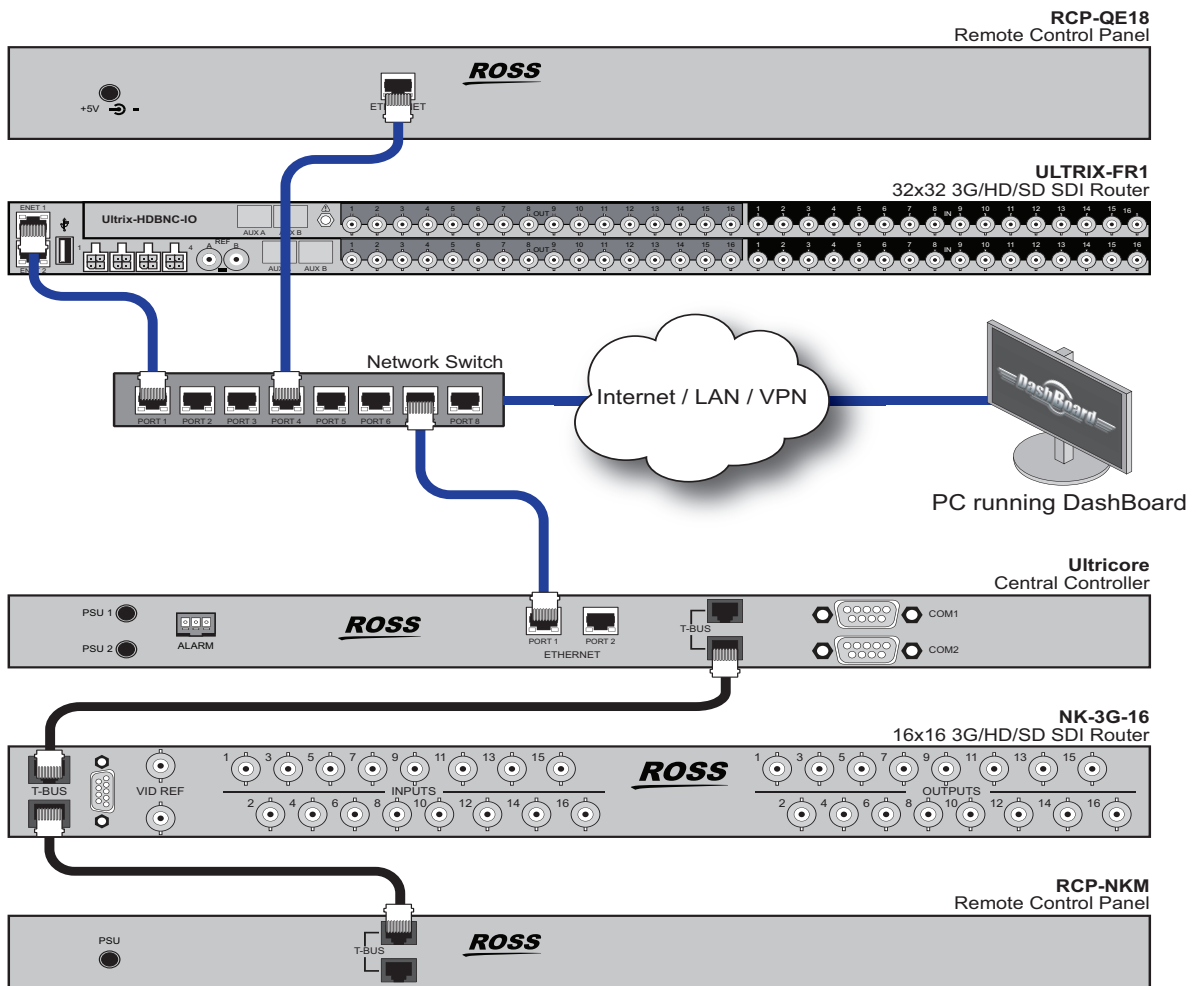

Figure 5.16 Example of a Routing System with Ross NK Devices and an ULTRIX-FR2 Router
- Connect the NK device to the same ethernet network as your Ultrix router using an NK-NET or an NK-IPS, and then set up communications via the Ultracore interface in DashBoard. (**Figure 5.16**)
- Connect the NK device via the T-Bus connections on an Ultracore and then set up communications via the Ultracore interface in DashBoard. (**Figure 5.16**)